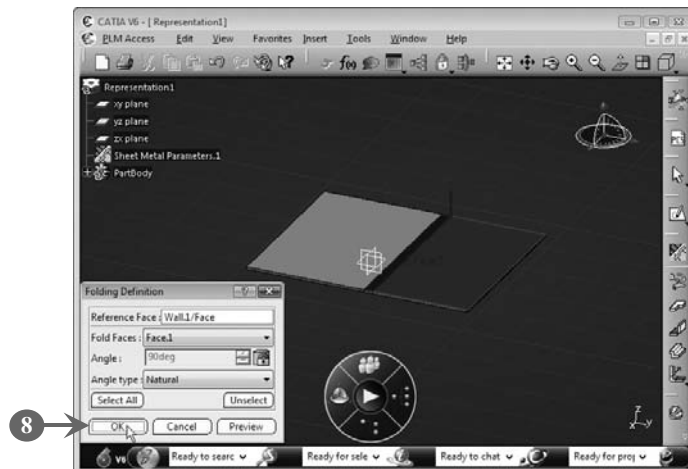

FIGURE 6.70
The bending face is added to the **Folding Definition** dialog box (Figure 6.70).
8. Click the **OK** button to close the **Folding Definition** dialog box, as shown in Figure 6.70: